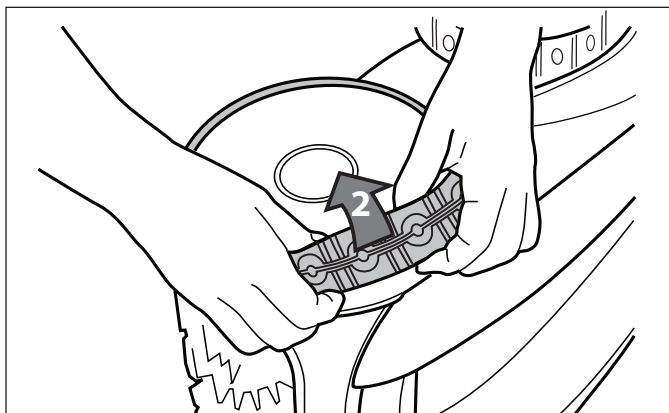

Figure 34. Remove the Old Tire
2. Remove the old tire as shown in Figure 34.